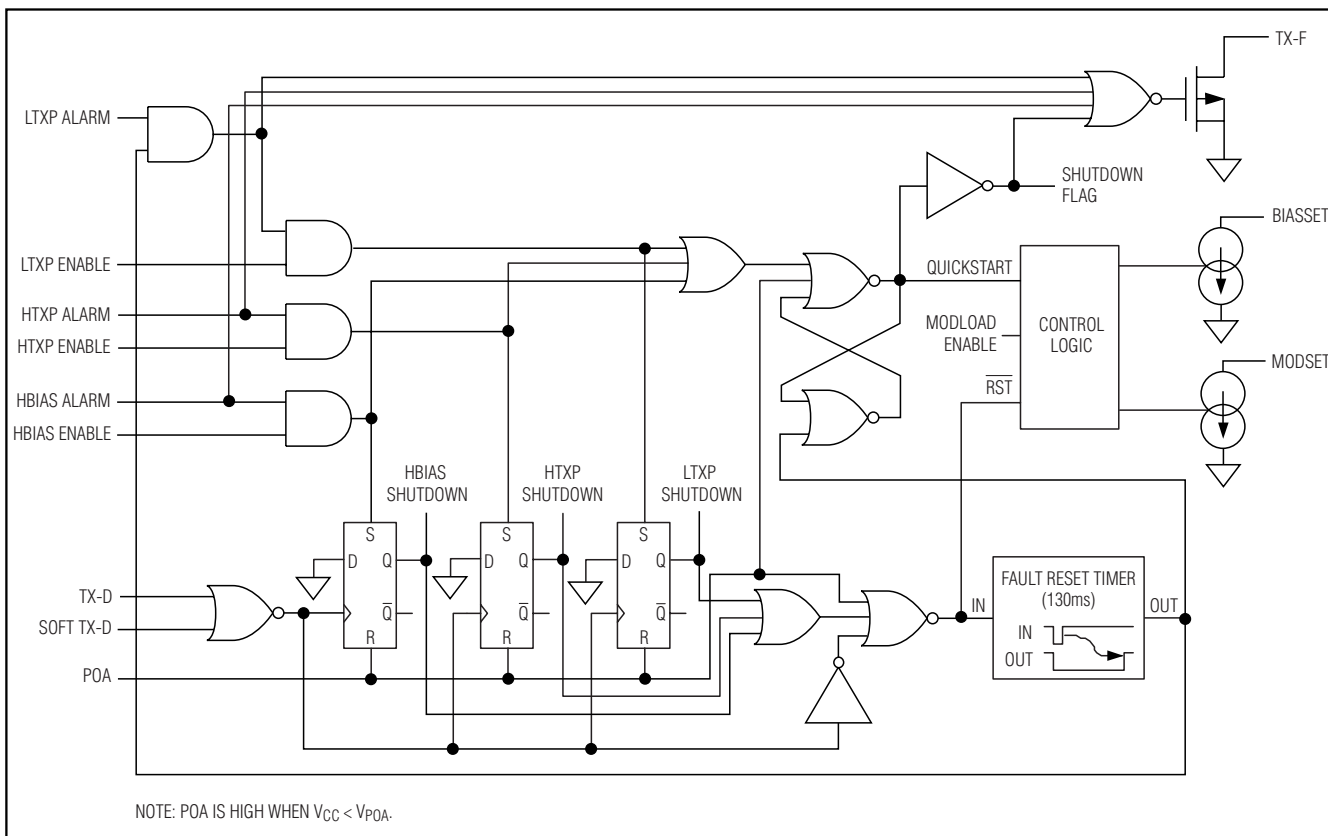

Figure 13. Quick Trip Logic Diagram
The DS1861 has a V_{CC} monitor plus three programmable quick-trip (QT) fault monitors (Figure 13) that can trigger the TX-F output. The QTs monitor for high transmit power (HTXP), low transmit power (LTXP), and for high bias current (HBIAS). All the QTs feature programmable trip levels, an alarm disable, and a shutdown enable to determine if the enabled QT alarm shuts off the IBIASSET and IMODSET outputs.
The high and low transmit power quick-trip thresholds are each programmed by 3 bits that select one of seven different levels as a function of the expected IBMD current. Each QT monitor can be disabled by programming all three bits to zero. Disabling a QT by programming its control bits to zero prevents the QT alarm flags from ever being set, which consequently prevents that monitor from asserting the TX-F output, latching the device into a shutdown condition, or setting the alarm bits in the Status register. The HTXP and LTXP enable bits can be used to prevent the transmit power level QTs from causing shutdown while allowing the TX-F output to be set to flag the system of a transmit power fault condition. Figure 13 shows the shutdown logic. Tables 1 and 2 show the QT thresholds as a function of IBMD current-set point.